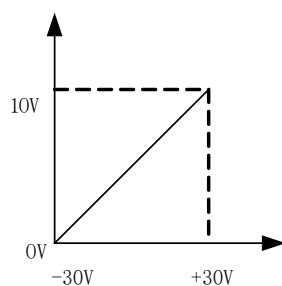

Figure 4-10 Signal equivalent circuit
6. The corresponding relationship between actual set voltage correction value of welding machine in synergic mode and analog receiving value of welding machine, as shown in Figure 4-10.